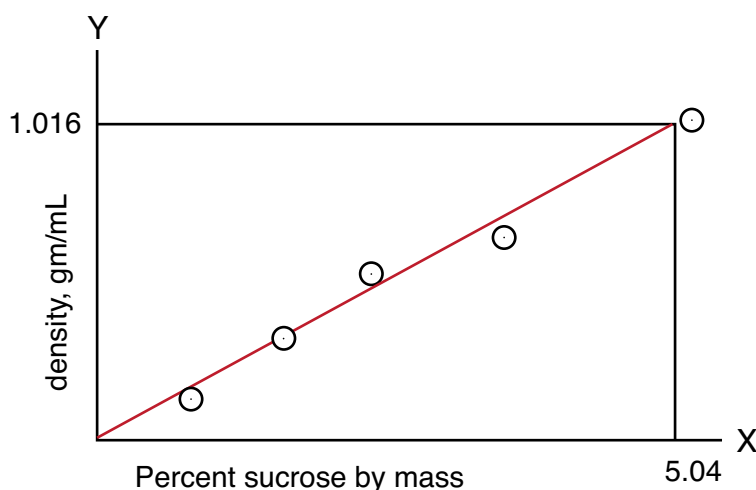

Figure 2
2. Graph the percent sucrose versus the density of the standard solutions on a piece of graph paper. Place concentration (percent sucrose) on the X-axis and the density on the Y-axis. Be sure to label all axes and use proper scaling for all measurements. Connect the plots to create a calibration curve similar to the one in Figure 2.